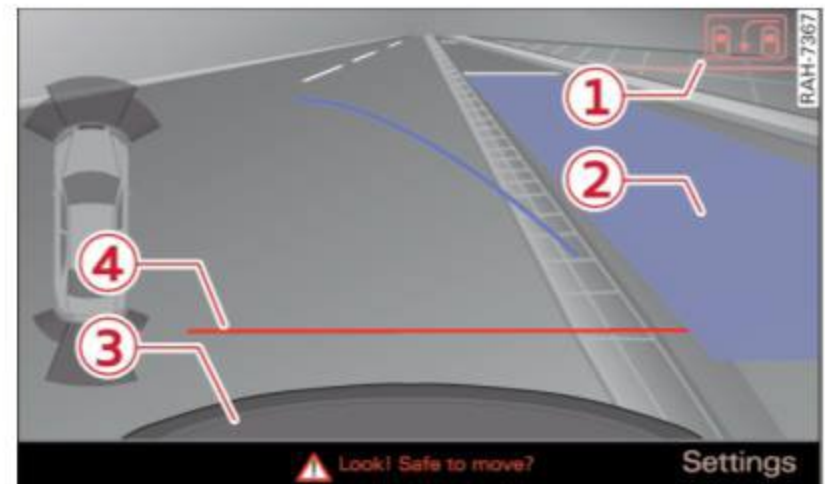

Fig. 114 MMI Display: blue surface in the parking spot
- ▶ Press the **Mode** ⇒ *fig. 114* ① control button on the MMI control console. Parking mode 2 appears.
- ▶ Back up in reverse gear and align your vehicle so that the blue area ② borders on the rear end of the vehicle or on the parking spot line. The blue area represents an extension of the vehicle's outline by approximately 16 ft (5 m) to the rear. The long side of